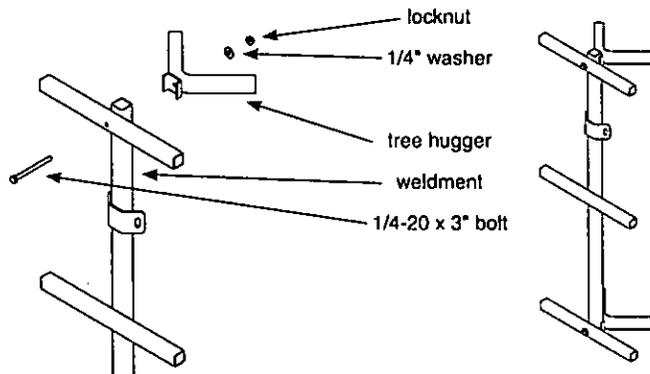
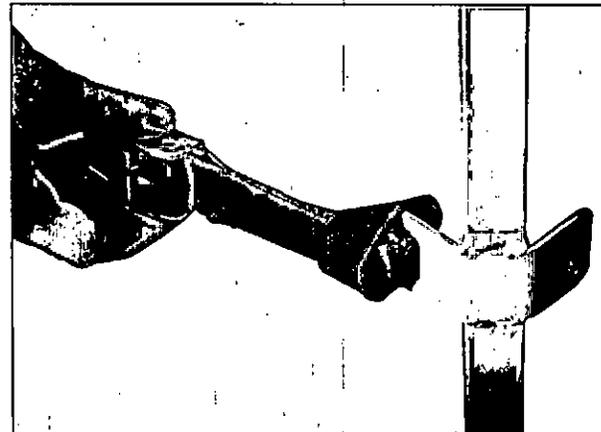

FIGURE 1
FIGURE 2
1. Attach (2) tree huggers (SS12) to each fast stick weldment (48161) using (2) provided 1/4-20 x 3" bolts, (2) locknuts and (2) 1/4" washers. SEE FIGURE 1. TIGHTEN ALL NUT AND BOLT ASSEMBLIES COMPLETELY! REPEAT FOR EACH ADDITIONAL FAST STICK SECTION.
3. a. Using (1) of the provided cam strap assemblies (48302), insert the loop end of the short strap through slot of strap attachment bracket located on to the vertical post of Fast Stick weldment. You may choose either slot, depending on left or right hand preference.
- b. Take the entire cam strap assembly and feed it through the loop and pull tight forming a cinch knot. This permanently attaches the strap to the Fast Stick section. SEE FIGURE 2.